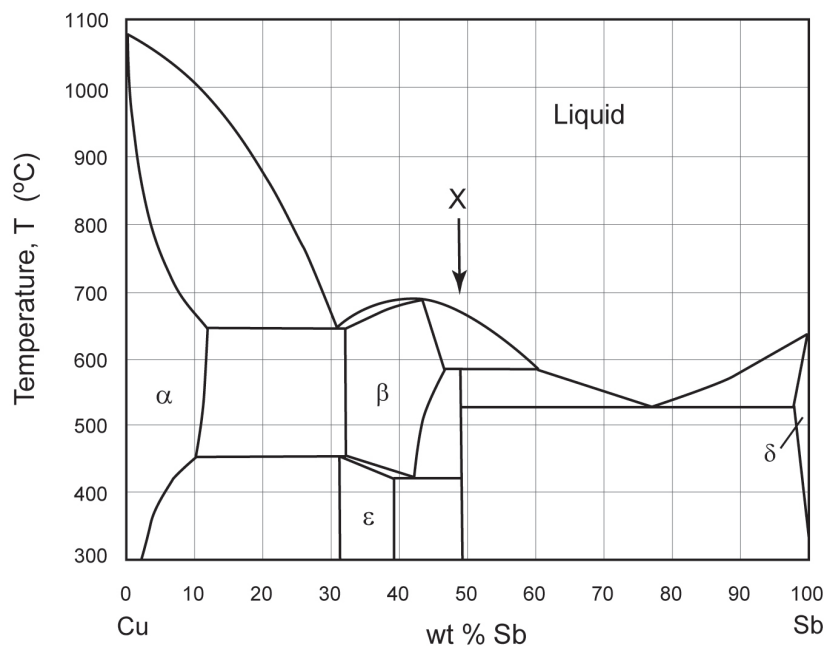

Figure 16: copper-antimony Cu-Sb phase diagram
- * 25. Figure 16 shows the copper-antimony Cu-Sb phase diagram.